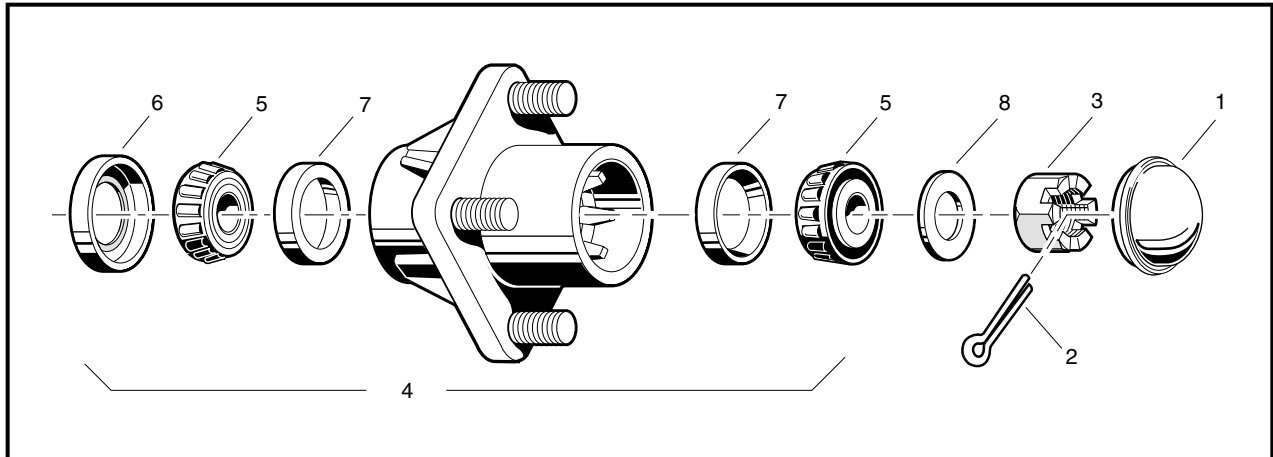

Figure 7-25 Front Wheel Bearings and Hub
2. Using your hands, attempt to rock the wheel and hub assembly back and forth on the spindle. If there is any observable movement of the wheel and hub on the spindle, remove dust cap (1) and cotter pin (2) and then tighten the spindle nut (3) until the bearing (5) fully seats in the bearing race (7).
4. Install a new cotter pin (2). If movement continues, replace the wheel bearings (5) as required (**Figure 7-25, Page 7-23**).
- 2.1. Remove dust cover (1), cotter pin (2), spindle nut (3), and flat washer (8) (**Figure 7-25, Page 7-23**).
- 2.2. Remove the hub assembly (4) from the spindle shaft (**Figure 7-25, Page 7-23**).
3. Remove the seal (6) and the bearings (5) from the hub (**Figure 7-25, Page 7-23**).
4. Inspect the bearing cups (7). If they are worn or pitted, remove the cups by inserting a drift punch from the opposite end of the hub and tapping lightly around them (**Figure 7-25, Page 7-23**).
6. Inspect the surface of the spindle shaft where the seal (6) seats. It should be clean and smooth (**Figure 7-25, Page 7-23**).
1. Pack the wheel bearings (5) and hub cavities, and lubricate cups (7) with wheel bearing grease or chassis lube. Make sure the grease is forced between the rollers (**Figure 7-25, Page 7-23**).
2. If bearing cups (7) were removed, press new ones in squarely against stops in the hub (**Figure 7-25, Page 7-23**).
3. Install the wheel bearings (5) into the hub and install a new seal (6), with the metal edge toward the hub (**Figure 7-25, Page 7-23**). See following **NOTE**.
4. Install the hub assembly (4) and flat washer (8) on the spindle and start the spindle nut (3) (**Figure 7-25, Page 7-23**).
5. Tighten the spindle nut until the hub is hard to turn, then back the nut (3) off until the hub turns freely. Install a **new** cotter pin (2) (**Figure 7-25, Page 7-23**).
7. Install the dust cap (1) (**Figure 7-25, Page 7-23**).